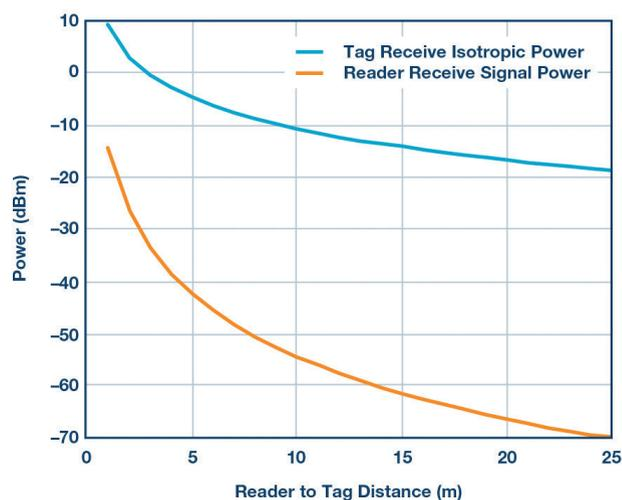

Figure 1. Forward and reverse link budget calculation.
m. The system link budget shown in **FIGURE 1** is based on the previously described formulas and parameters.